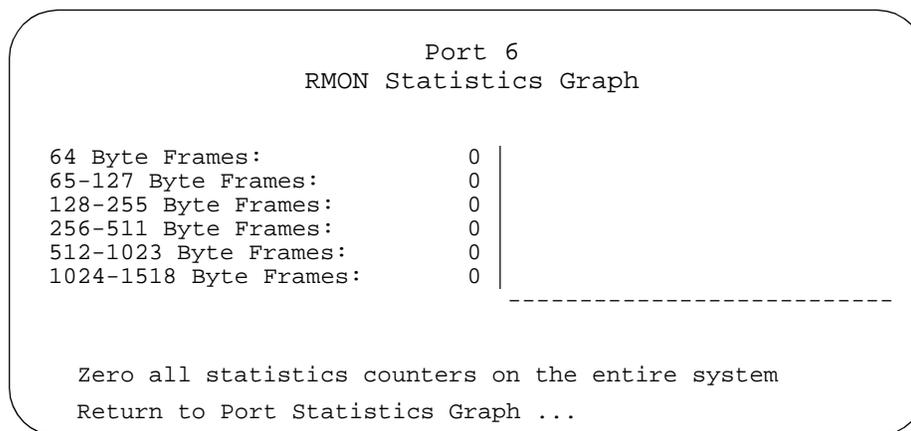

Figure 56 Sample RMON Statistics Graph for a Port
3. Select a port to display a graph similar to Figure 56.